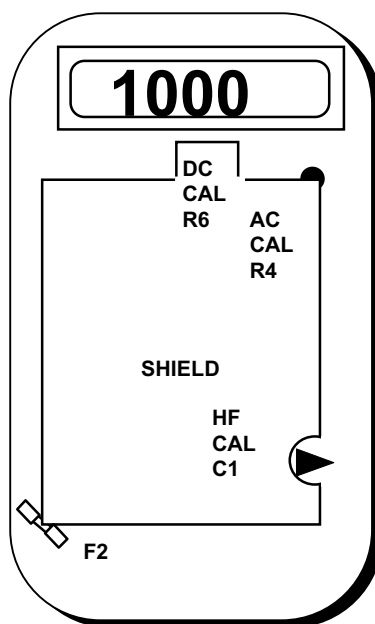

Figure 1. Adjustment locations.
- (4) Set calibrator output to minimum and disconnect equipment setup.
**b. Adjustment.** Set calibrator output for 190.0 mV and adjust DC CAL R6 (fig. 1) until TI indicates 190.0 (R).
- (1) Set calibrator for an output amplitude of 190 mV at an output frequency of 45 Hz and adjust **AC CAL R4** (fig. 1) for a TI indication of 190.0 (R).
- (2) Set calibrator for an output amplitude of 1.9 V at an output frequency of 5 kHz and adjust **HF CAL C1** (fig. 1) for a TI indication of 1.900 (R).